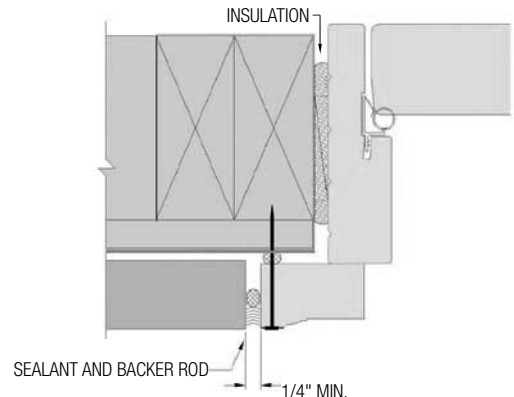

FIG. 19: SIDE JAMB
- A) After siding or wall exterior is complete, apply backer rod and sealant between the door frame and siding material on both sides. (Fig. 19)